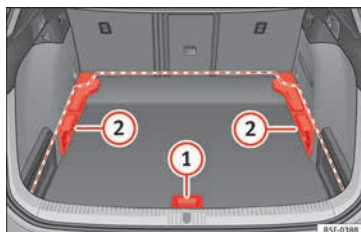
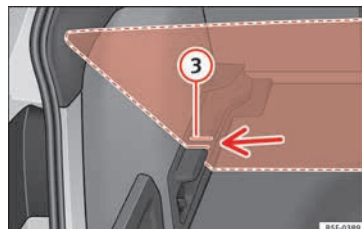

Fig. 180 Luggage compartment variable floor: positions.
Fig. 181 Luggage compartment variable floor: grooves tilted.
- Lift the floor using handle » **Fig. 180** ① and pull it back until the front of the floor has fully passed the supports ②.
- Move the floor forward over the supports as far as the rear seat backrest and then lower the floor with the handle ①.
- Now match the front part with the lower grooves of the supports and slide the floor forwards as far as the rear seat backrest and lower the floor at the same time with the handle ①.
- Lift the variable floor using handle » Fig. 180 ① and pull it back until the front of the floor has fully passed the tilted grooves » Fig. 181 ③.
- Run the floor through these grooves with the help of handle ① as the rear seat backrest and until the floor is resting in the grooves.